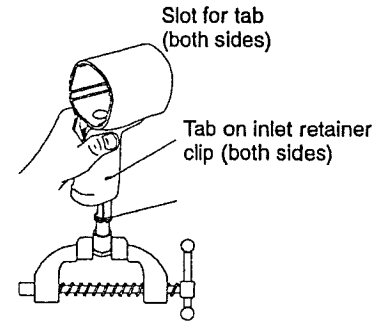

Figure 7
- Secure the Inlet Bushing in a vise. Press in both tabs of the Inlet Retainer Clip (32) and pull upward on the Housing (19). This will allow the Inlet Bushing to come free from the Handle of the Housing. See Figure 7.
- Pull the Trigger (33) from the front of the Housing and remove the Trigger O-ring (34).